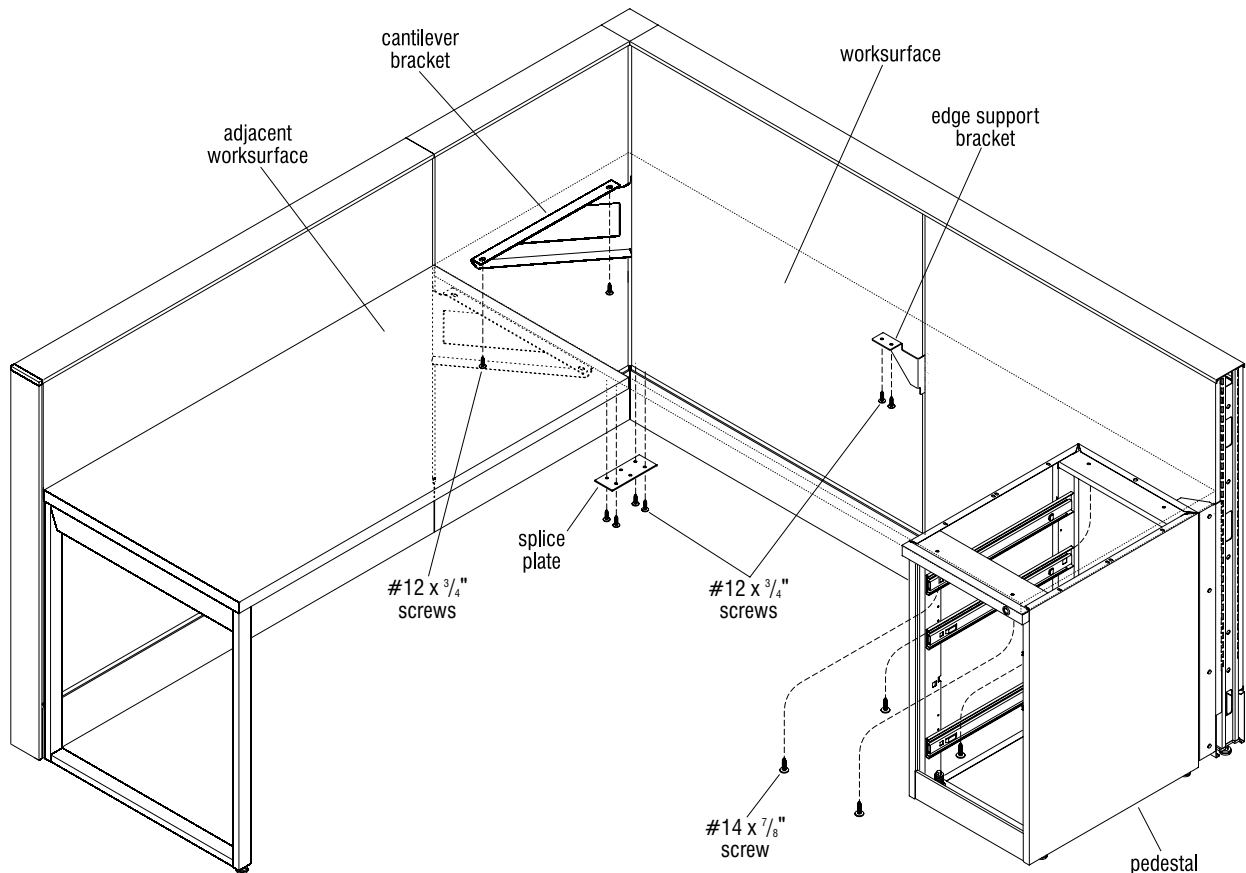

Figure 26
3. Carefully place worksurface onto the installed cantilever bracket, support bracket (if used) and the pedestal. Align mounting holes of the installed brackets to pre-drilled holes in underside of worksurface. Secure using two #12 x  $\frac{3}{4}$ " screws per bracket. Take care to not over-tighten screws (Figure 26).
4. To install pedestal to underside of worksurface, align pre-drilled holes in the worksurface with mounting holes of the pedestal. Take care to assure that the front and side of the pedestal is flush with the edges of the worksurface as illustrated (Figure 26).
5. Once mounting holes are aligned and cabinet is square, secure pedestal to worksurface using four #14 x  $\frac{7}{8}$ " screws (Figure 26).
6. To keep worksurfaces level, install a small splice plate between adjacent worksurfaces as illustrated. Reference instructions on page 56 for installation (Figure 26).